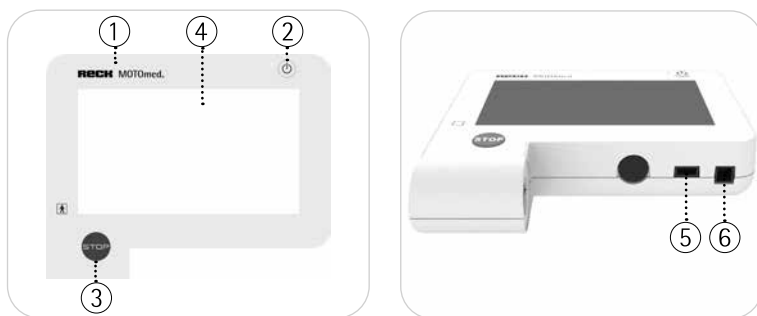

Fig. 5.1, 5.2
see Fig. 5.1 Press the On/Off button ② to turn on your MOTOMed.
see Fig. 5.1 You can interrupt your training at any time by pressing the red Stop button ③.